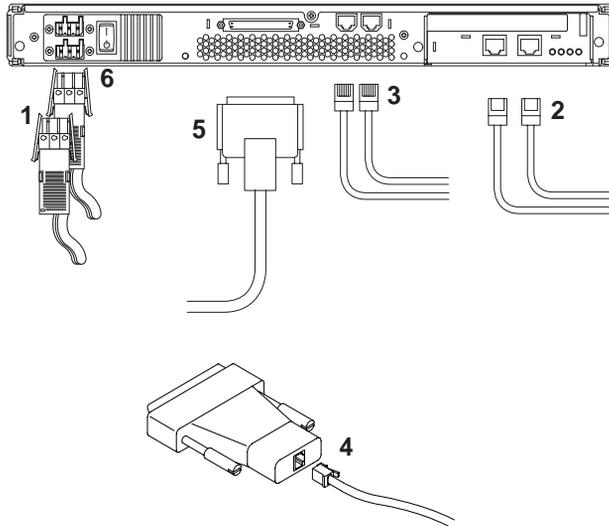
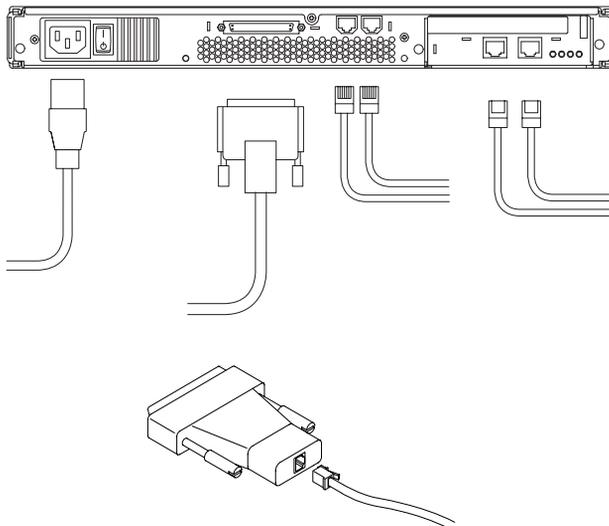

FIGURE 6-1 Connecting the Netra t1 Model 100 System
FIGURE 6-2 Connecting the Netra t1 Model 105 System
- 4. If you intend to configure the Netra t1 system directly from a dumb terminal or a Sun workstation, insert the serial cable into the DB25 adapter supplied (see FIGURE 6-1 and FIGURE 6-2).**